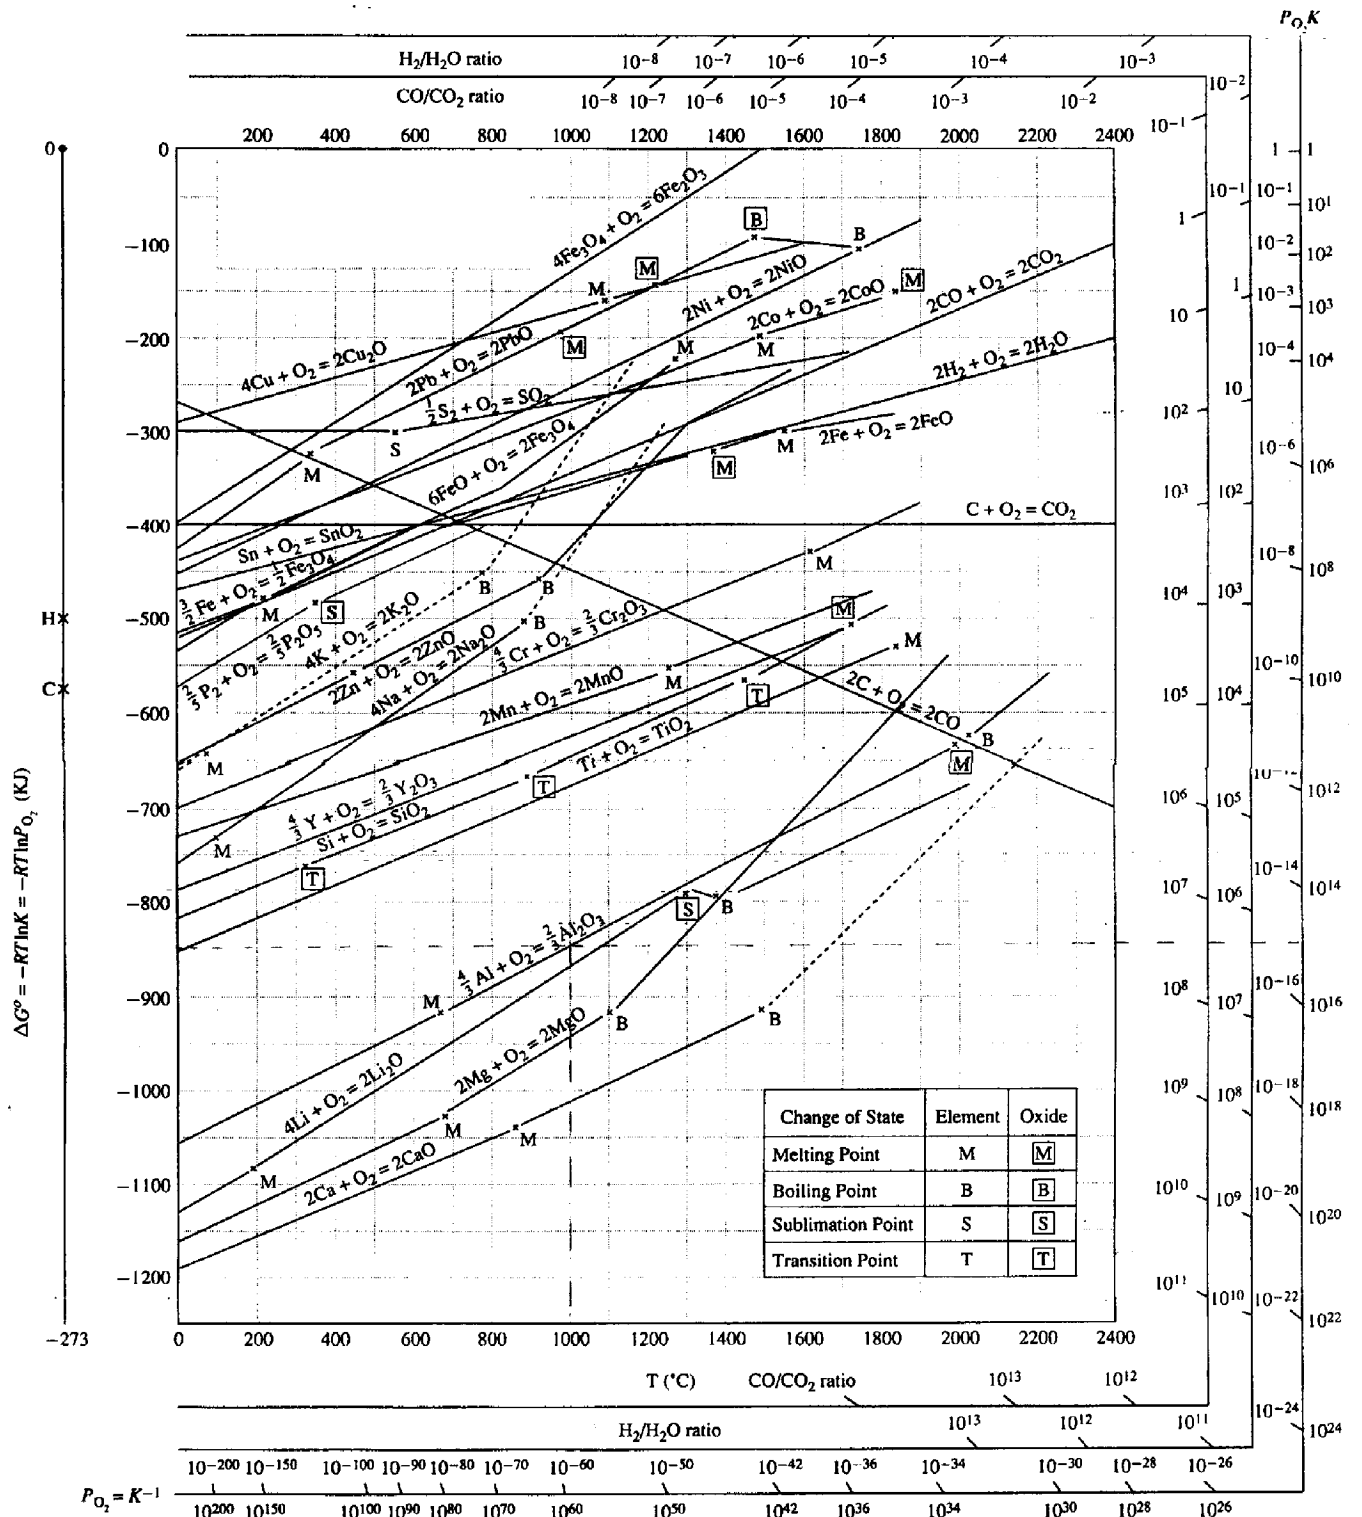

Figure 2 Ellingham diagram
d) Based on the Ellingham diagram (See Fig. 2) what is the oxygen partial pressure, in which pure Al_2O_3 can be reduced to pure Al at $T=1000^\circ\text{C}$? Give also the corresponding equilibrium constant for the reaction (2p)